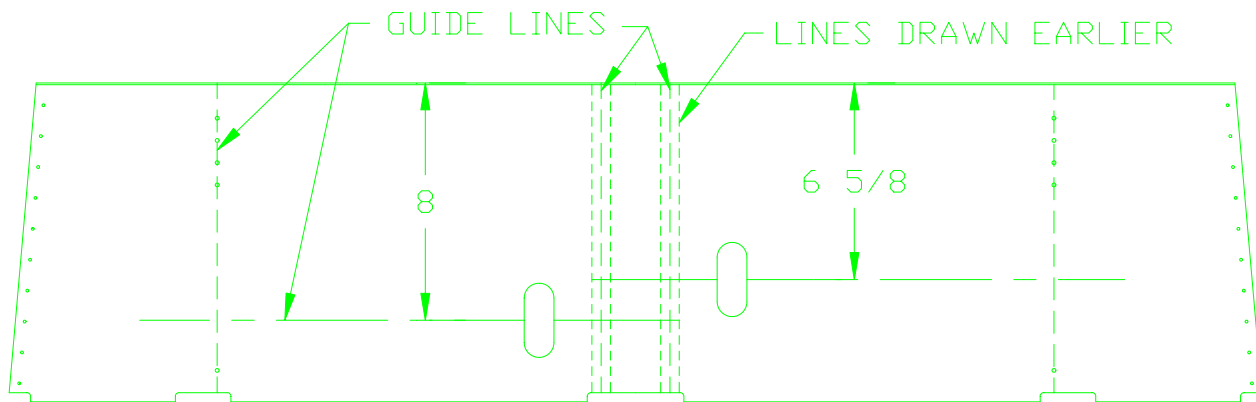

FIGURE 5
- 7) Draw guide lines on the floor skin as in Figure 5.